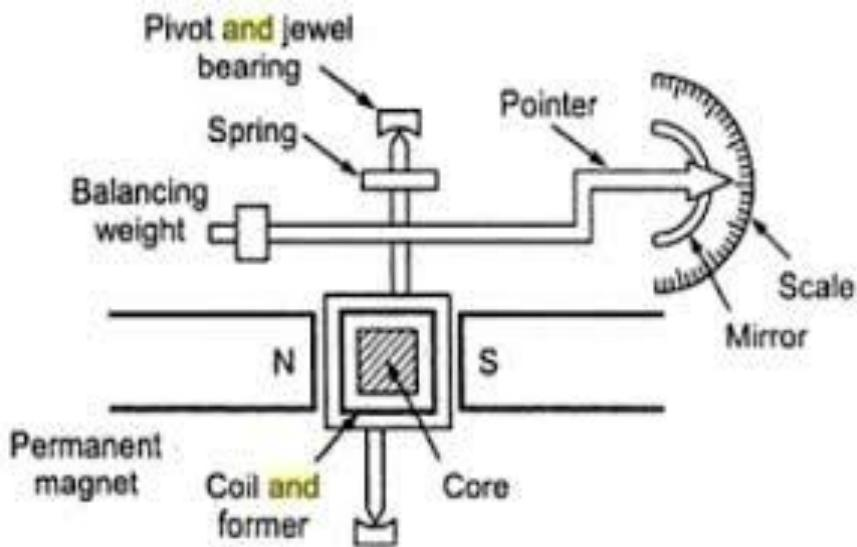

Fig.4.6
**(C) Moving Coil :** A coil of many turns of enameled or silk covered copper wire is wound on a light aluminum frame. This coil can move freely between the poles and iron core. The coil provides electro magnetic damping. The moving coil assembly is mounted on a pivoted spindle as shown in the fig.4.6.